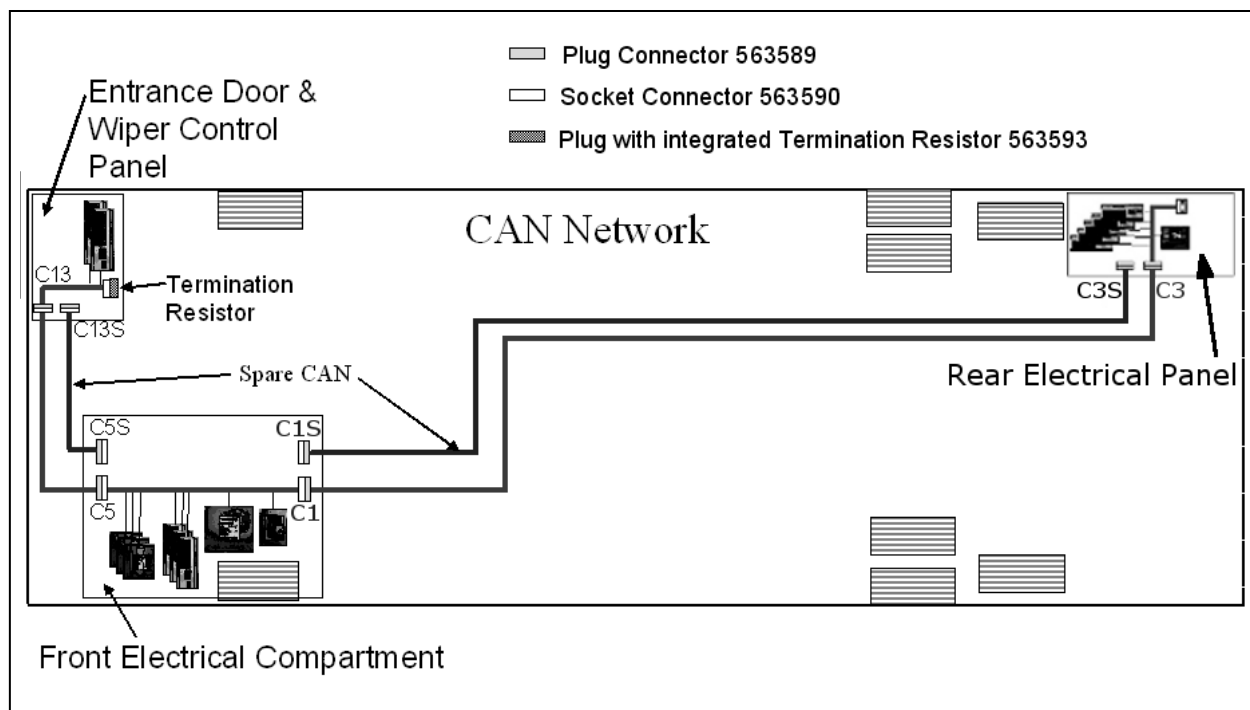
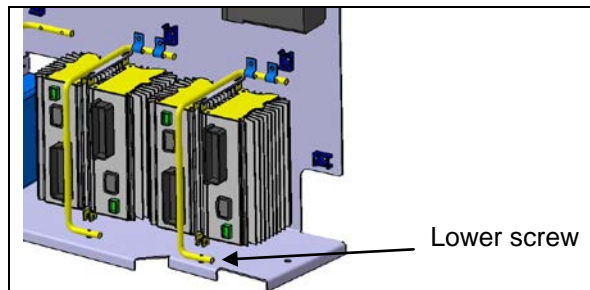

FIGURE 20: X3-45 COACHES CAN NETWORK LAYOUT
FIGURE 21: IO-B MODULE REMOVAL
If the alternators needed to be removed, reinstall as follows. Refer to figure 20 for installation and to figure 21 for tightening specifications:
1. If necessary, tighten screws (6) fixing alternators support assembly onto engine (1, figure 21). Torque tighten to 43 Lb-Ft, use some Loctite 243 blue (680038) onto the threads. Also tighten screw (1) fixing belt tensioner onto alternators support assembly (1, figure 21). Torque tighten to 43 Lb-Ft, use some Loctite 243 blue (680038) onto the threads.
2. If removed, reinstall screw (1) fixing alternators support assembly onto engine (2, figure 21). Torque tighten to 22 Lb-Ft, use some Loctite 243 blue (680038) onto the threads.
3. Mount the A/C compressor idler pulley onto alternators support assembly (3, figure 21). Torque tighten to 150 Lb-Ft, use some Loctite 243 blue (680038) onto the threads.
4. Install alternators arched support (1) onto engine (4, figure 21), torque tighten to 43 Lb-Ft. If removed, install alternators idler pulley (1) (4, figure 21) onto alternators arched support, torque tighten to 43 Lb-Ft. Also, mount the lower alternator and upper alternator onto alternators arched support, torque tighten to 43 Lb-Ft. If removed install stone guard below lower alternator.
5. Fix lower and upper alternators to alternators support assembly using bolts (2) (5, figure 21), torque tighten to 80 Lb-Ft.
6. Mount pulleys (6, figure 21) onto alternators. Torque tighten to 58 Lb-Ft.